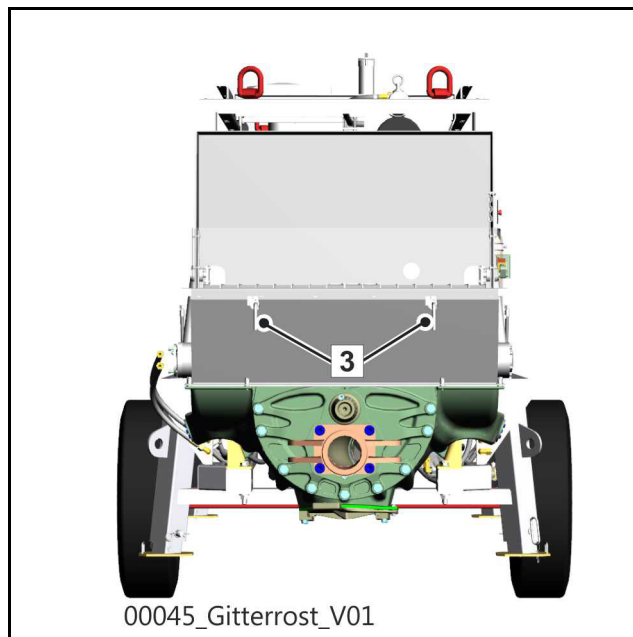

Fig. 34
Two locking bars (3) (**Fig. 34**) are used to secure the grid assembly.